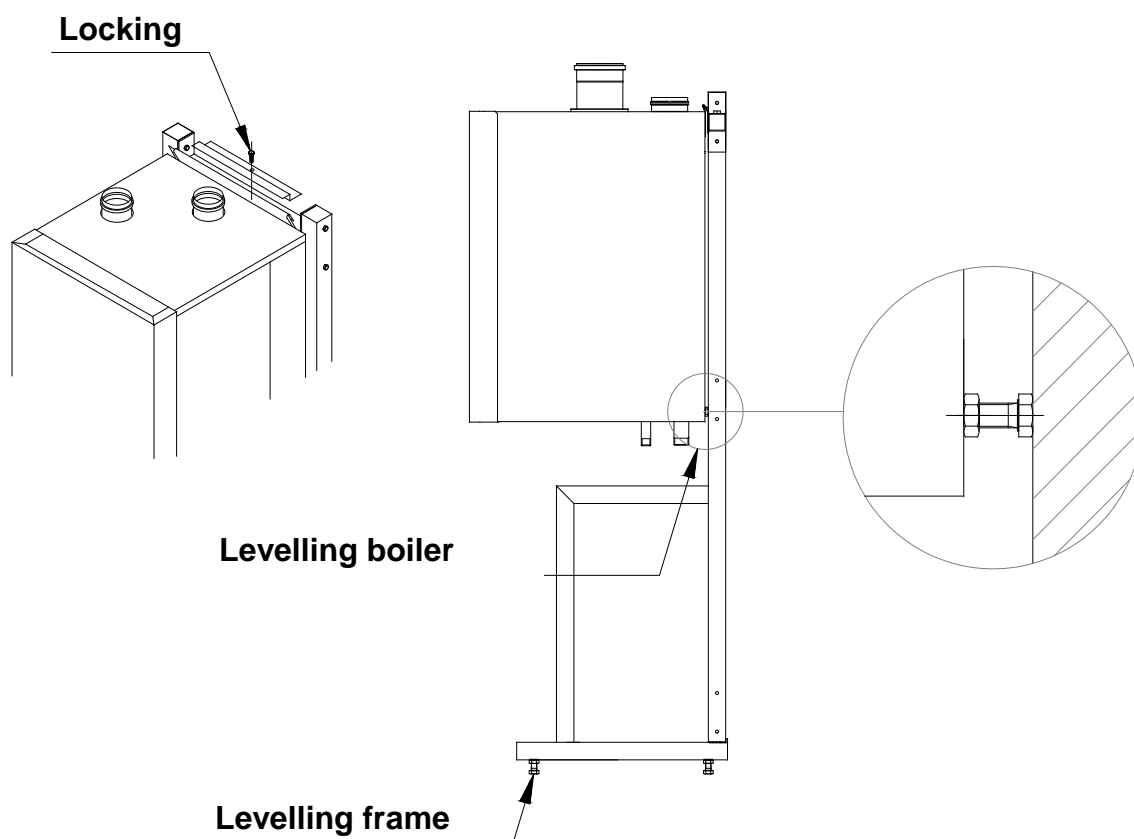

Figure 10.1 Mounting details
1. Before mounting the boiler on the frame, ensure that the frame is level both horizontally and vertically. If necessary adjust with the adjusting bolts on the lower side of the frame (see Figure 10.1).
The boilers must hang backwards slightly ($1^\circ \pm 0.5^\circ$). If necessary, adjust with the adjusting bolts on the lower rear side of the back panel (see Figure 10.1). When the adjusting bolts are **not** sufficient, the space behind the bolts needs to be filled to achieve the correct position.